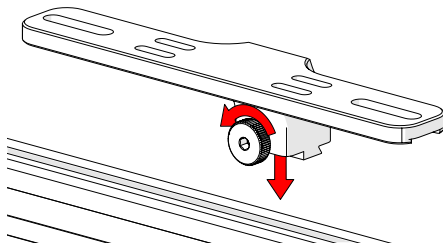

Fig. 76 - Loosen knob and mount to dovetail groove
1. Loosen the knob and align with the dovetail groove (*Fig. 76*).